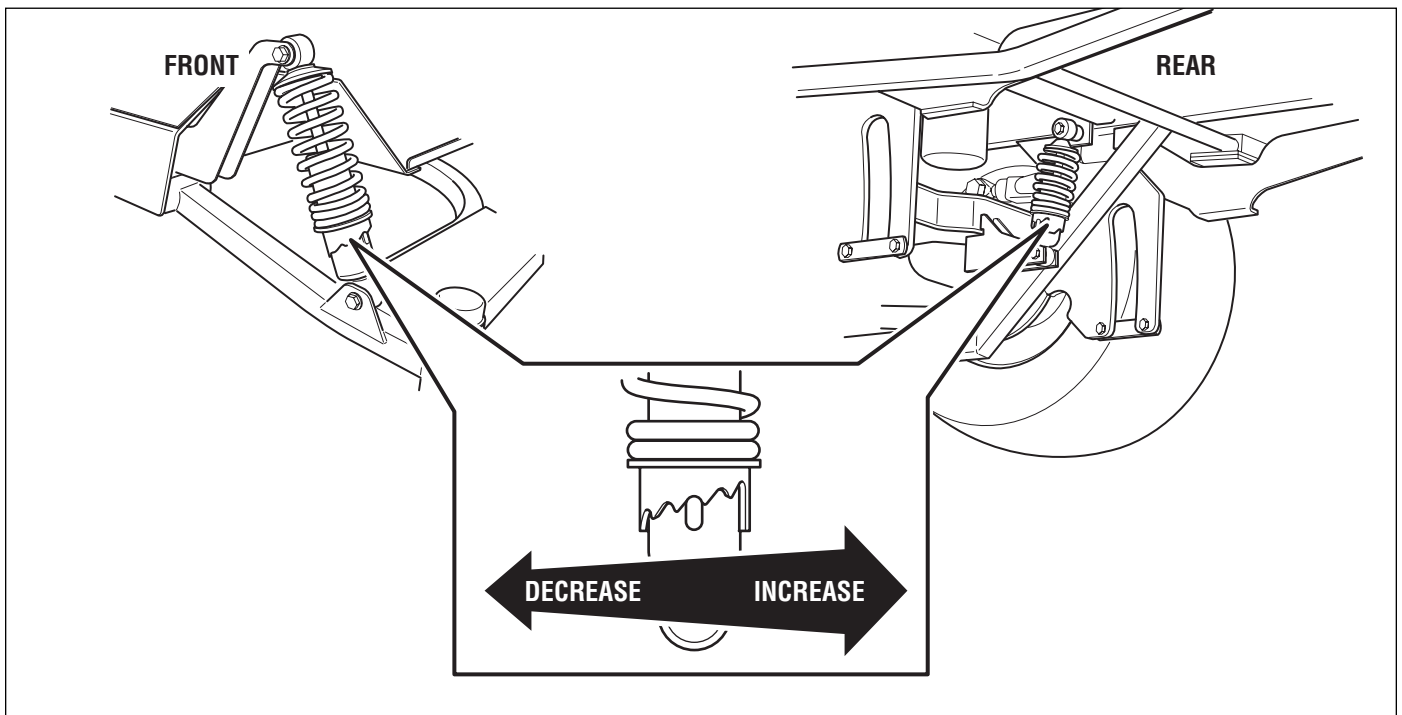

Figure 44. Adjust Spring Pre-Load
1. Locate the pre-load adjuster collar on the shock assembly. See Figure 44.